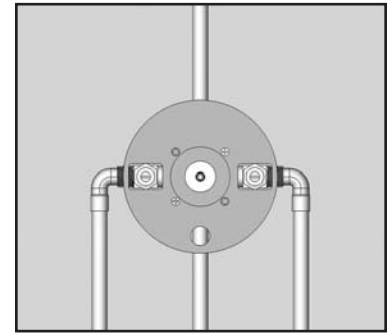

FIG. 2
2. Rough valve body into wall, connecting piping to 1/2" Female copper sockets or 1/2" Male I.P. nipples. (SEE FIGURE 2 ON PAGE 3) IMPORTANT: NOTE "UP AND DOWN" MARKINGS ON BACK OF VALVE.
1. Rough valve body into wall, connecting piping to 1/2" Female copper sockets or 1/2" Male I.P. nipples. (FIG. 2) **NOTE "UP AND DOWN" MARKINGS ON BACK OF VALVE.**